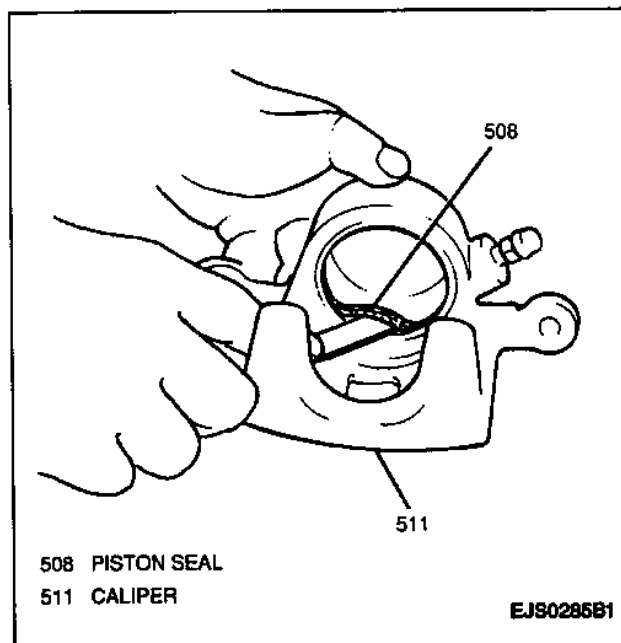

Figure 15—Removing Piston Seal from Caliper
3. Piston seal from caliper (Figure 15).